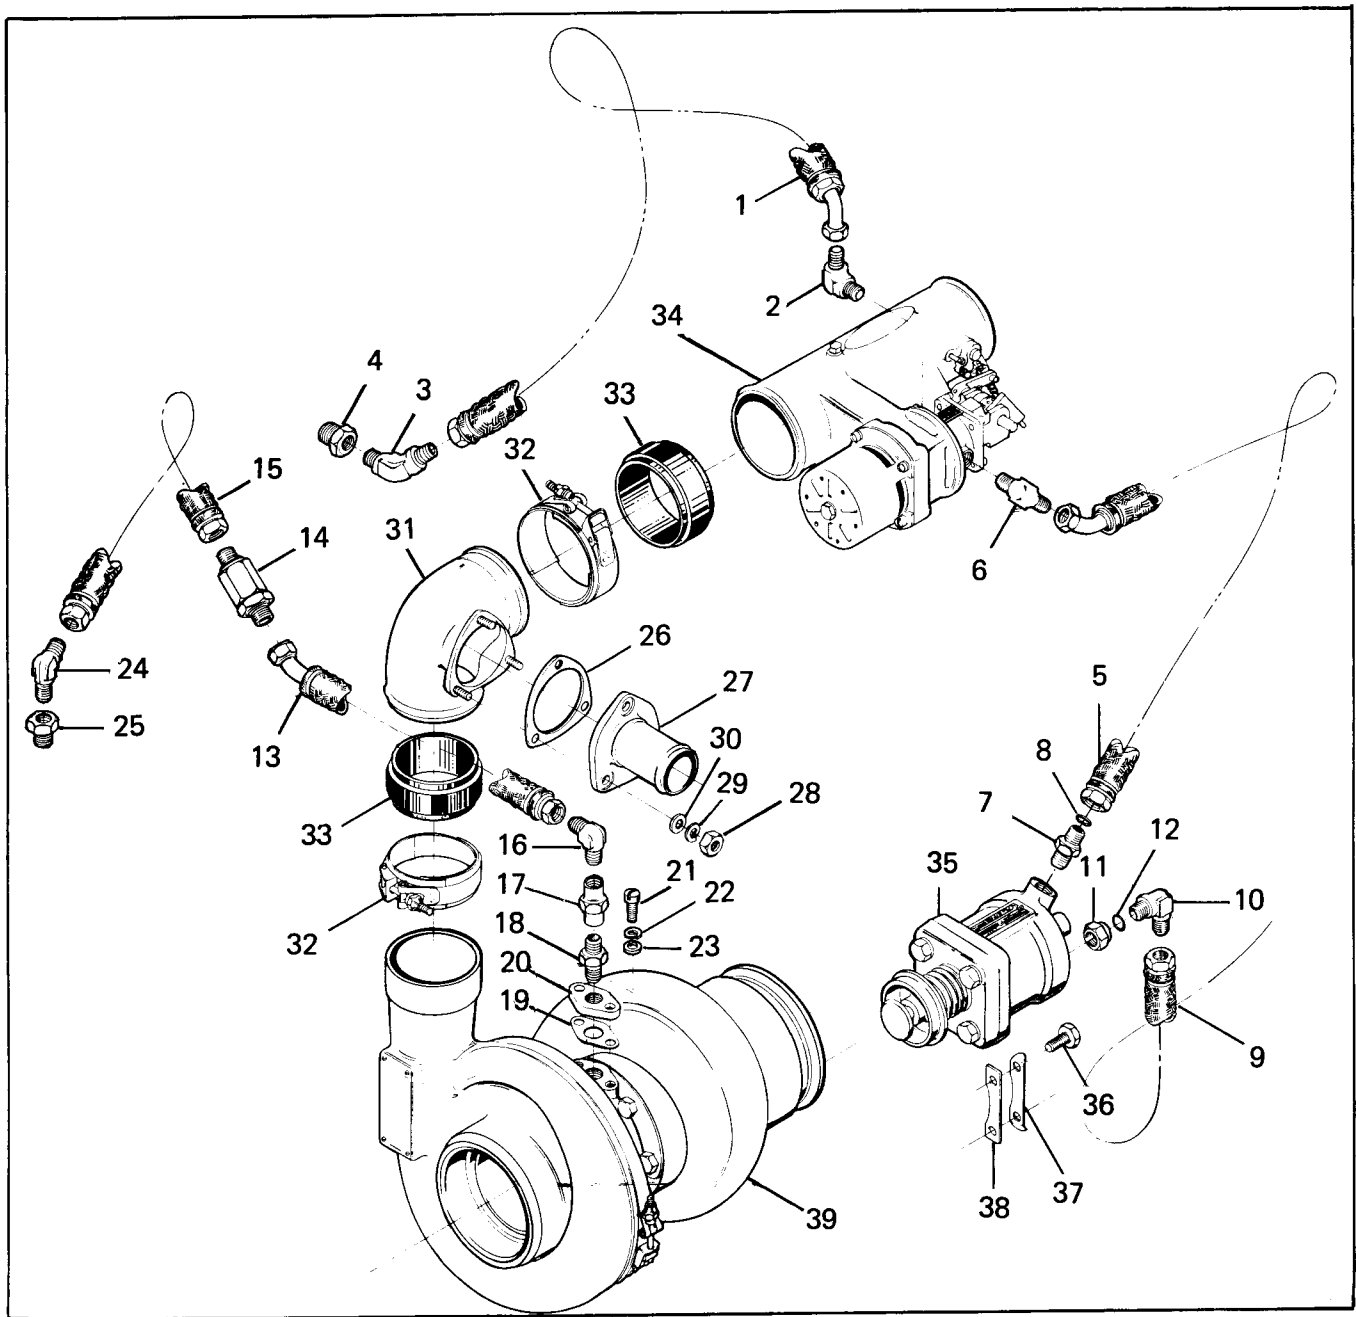

FIGURE 9-4 INDUCTION/EXHAUST RELATED PARTS
9-8 INDUCTION SYSTEM (FIGURE 9-4, 9-5)
a. Figure 9-4. Remove controller to engine hose (1), controller to wastegate valve hose (5), oil cooler to wastegate valve hose (9) and turbo to oil cooler hoses (13,15) and check valve (14). Remove associated fittings only as required.
b. Figure 9-4. Remove sonic venturi attaching parts (28,29,30) and remove sonic venturi (27) and gasket (26). Loosen coupling (32) and separate induction tube (31) from turbo charger (39) and throttle and control assembly (34).